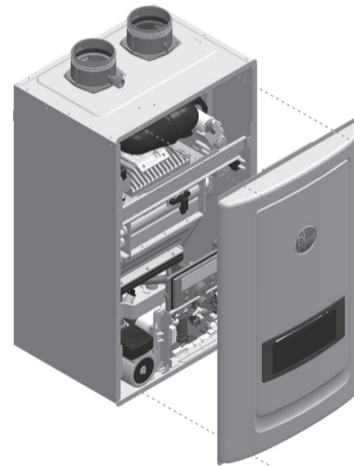

Figure 1
- Remove the front cover by loosening the 4 screws. (Figure 1)